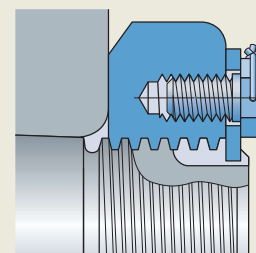

Fig. 7
- are located on the shaft by MS locking clips (fig. 7)
- Locking clips (fig. 7) engage a keyway in a shaft or adapter sleeve and one of the slots in the outside diameter of the lock nut. Locking clips are attached to the nut by a bolt (fig. 11).